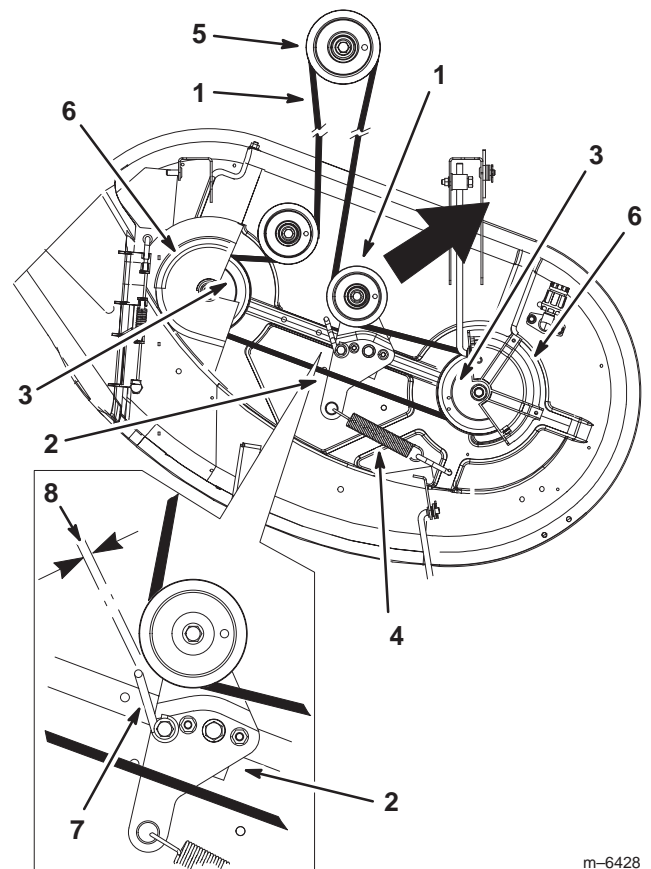

Figure 44
5. Pull the idler pulley in the direction shown in Figure 44 and roll the belt off of the pulleys.
6. Route the new belt around the engine pulley and mower pulleys (Fig. 44).
7. Pull the idler pulley in the direction shown in Figure 44 and route the belt onto the idler pulley (Fig. 44).
8. Rotate the belt guide, on the idler arm, so it is 1/32 to 1/8 inch (0.8–3 mm) away from the side of the mower belt (Fig. 44).